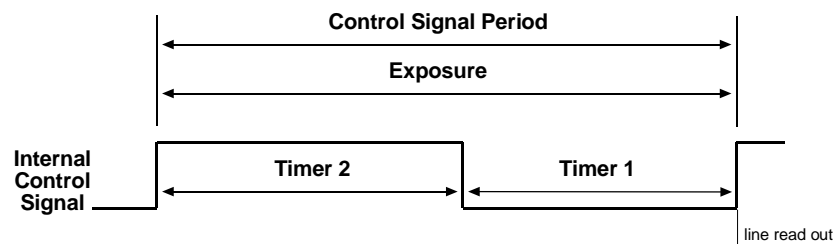

Figure 3-6: Free-run, Edge-controlled Mode
- In **free-run, edge-controlled mode**, the pixels are exposed and charge is accumulated over the full period of the internal control signal (rising edge to rising edge). The falling edge of the control signal is irrelevant. The line is read out and transferred on the rising edge of the internal control signal. See Figure 3-6.